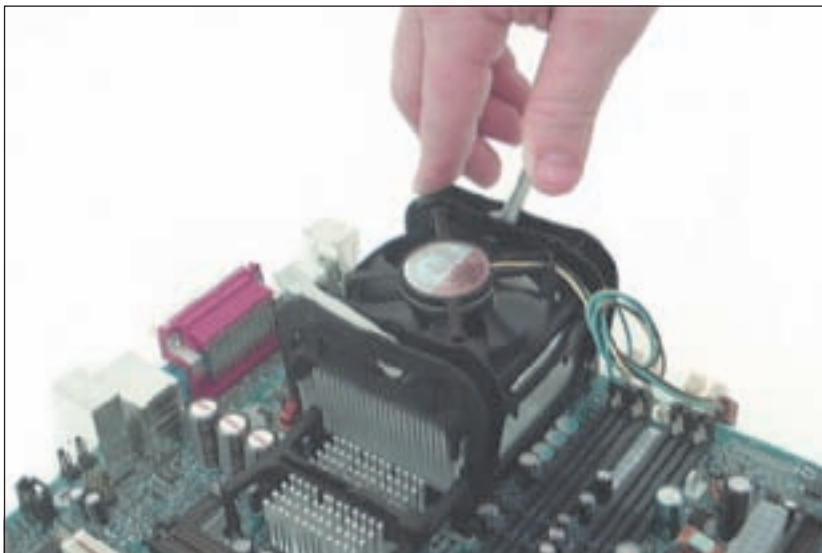

Figure 6-42 The clip levers attach the cooling assembly to the retention mechanism around the processor
4. After the cooling assembly is in place, push down the two clip levers on top of the processor fan (see Figure 6-42). Different coolers use different types of clipping mechanisms, so follow the directions that come with the cooler. Sometimes the clipping mechanism is difficult to clip onto the processor, and the plastic levers and housing are flimsy, so work carefully.